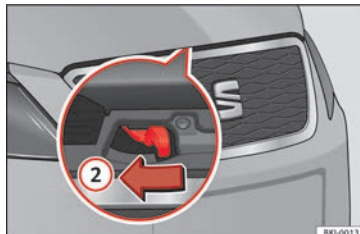

Fig. 8 Lever under the bonnet.
- To lift the bonnet, press the lever under the bonnet, in the centre, towards the left » **Fig. 8** ②. The arrester hooks are released.